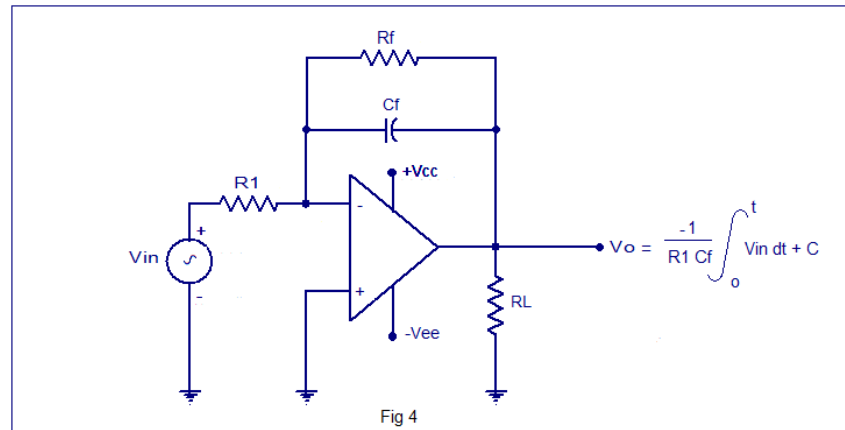

Fig. 3: Practical Integrator
In the DC condition Cf offers infinite resistance and so the integrator circuit will be like an inverting opamp amplifier with infinite feedback resistance (Rf = ∞). The equation for the voltage gain (A) of an opamp amplifier in inverting mode is A = -(Rf/R1). Substituting Rf=∞ in the present scenario we get A=∞. Therefore the small input offset voltage will get amplified by this factor and there will be an error voltage at the output. This problem can be solved by adding a feedback resistor Rf parallel to Cf as shown in fig 3.
1. Connect the circuit as per the circuit diagram fig 3.